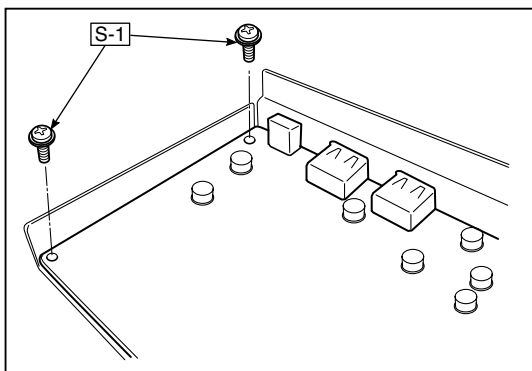

Fig.4
4.Remove the”S-1” screw shown in the figure 4 and then remove the Main Board Assy from the Main Board Shield.